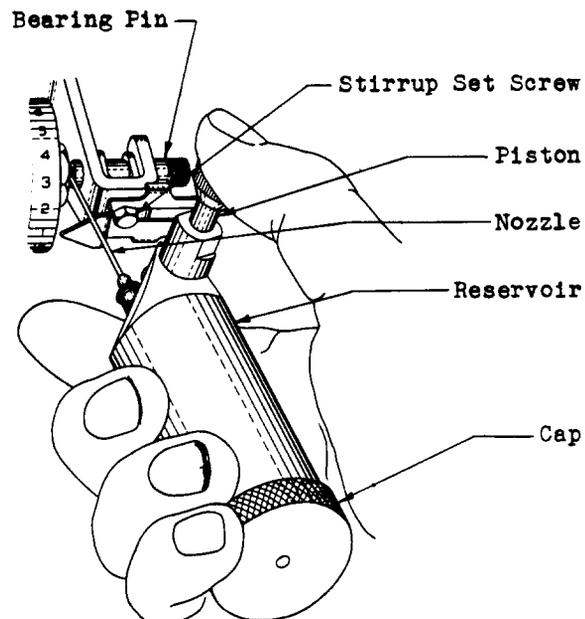

Fig. 10 - Method of Lubricating Cam Shaft Bearing at the Stirrup End with the No. 353-B Lubricator
(2) When the cam shaft bearing requires lubrication, use the No. 353-B lubricator. Before doing any lubricating, examine the lubricator, see that it is filled and working properly. If the lubricator fails to eject the lubricant properly when the piston is depressed, it is an indication that the tool is either empty or that there is an air pocket beneath the plunger. In this case it will be necessary either to refill the tool or to follow paragraph 8.
(4) See that the Veedol medium cup grease is in a container having a minimum depth equal to the length of the reservoir of the lubricator. Take care that the air bubbles have been worked from the grease and that the top surface is approximately flat.
(5) Place the rear end of the reservoir on top of the grease and depress the lubricator until all of the air has been forced from the reservoir through the screw hole at the top and the grease starts to come out.
(6) Replace the screw and the nozzle, withdraw the lubricator from the grease and wipe off the excess lubricant. Place the plug in the reservoir with the rib out and, while applying pressure to the plug, operate the plunger repeatedly. This will eject enough lubricant to allow space for the plug as well as remove any air bubbles that may be trapped at the nozzle end of the lubricator.
(7) Replace the cap and tighten it against the plug.
(8) *To remove air pocket* remove the cap and apply pressure to the plug as covered in paragraph (6), at the same time operating the plunger until grease begins to flow again.
(10) In removing the lubricator, draw the nozzle over the bearing surface of the cam shaft so that the lubricant will be deposited on the bearing surface in the manner shown in Fig. 10.